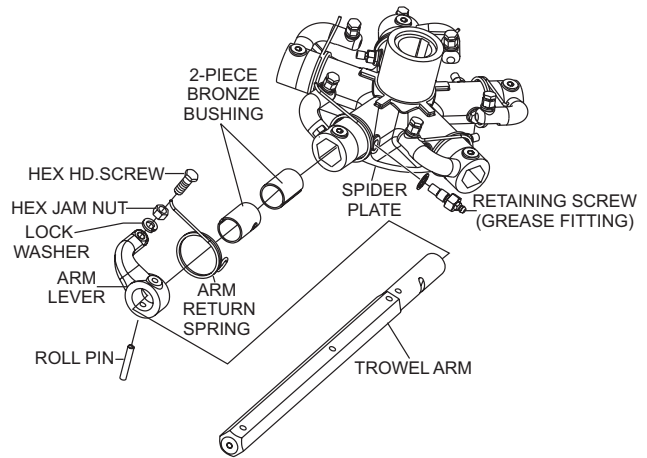

Figure 44. Remove Roll Pin and Zerk Fitting
2. Each trowel arm is held in place at the spider plate (Figure 44) by a hex head bolt (zerk grease fitting) and a roll pin. Remove both the hex head bolt and the roll pin from the spider plate.